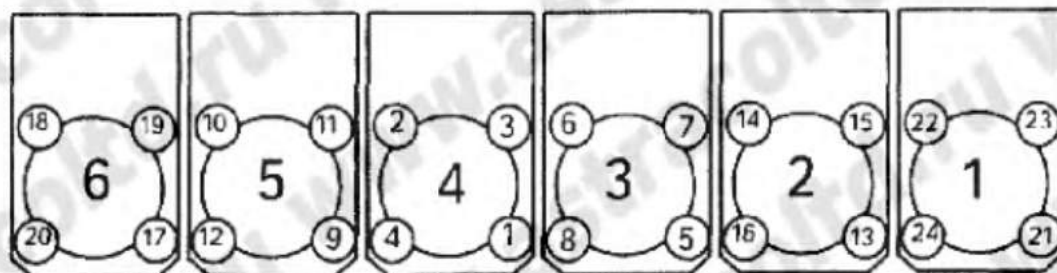

Fig.6
The tightening sequence for the main bolts and subsidiary nuts of cylinder heads see fig.5 and fig.6.
- According to fig.6, tighten the main bolts up to 200⁺¹⁰ Nm.
- According to fig.6, further turn the bolts an angle of 90°.